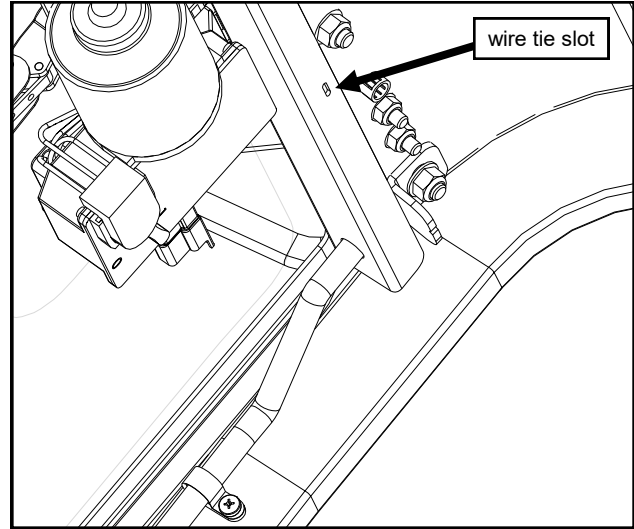

Fig. 17.2a (run wire loom thru windshield support - right)
**17.2** Apply the wire loom to the wiper harness. Remove (2) of the side dome plugs, one on the windshield support and the other on the top flange of the cowl. See figures 17.2a and b.
**17.5** Per figures 17.2a, 17.2b and 17.4, secure the wiper harness to the right side frame with P-Clips and self-drilling screws. Making sure that there is enough clearance between the wire loom and closed windshield.